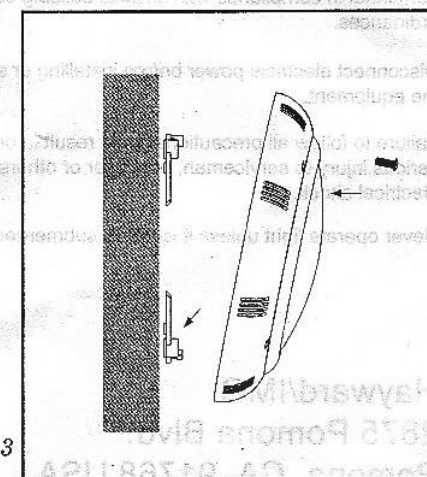

Figure 3
9. Mount light by inserting tab in remaining bottom bracket slot and fixing top of light to remaining top bracket with screw provided, see **Figure 3**.